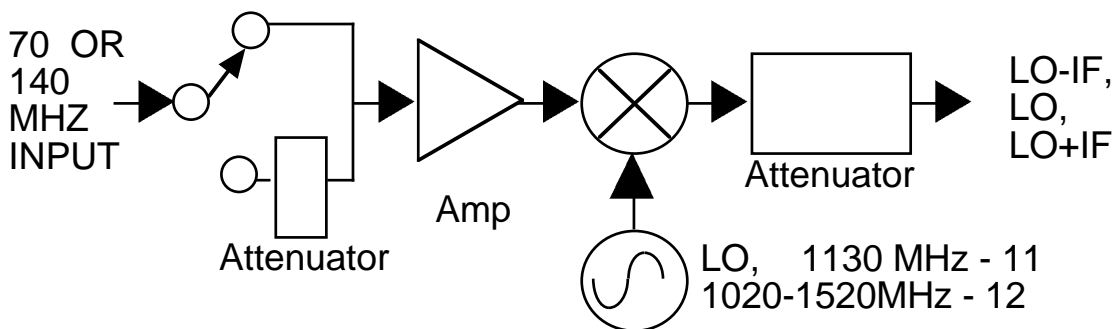

FIGURE 3.1 BLOCK DIAGRAM
3.1 Block Diagram Description - 2006-11, -12 (Figure 3.1) - The 70 or 140 MHz input goes to a capacitor and then to a switch which selects -5 or -25 dB gain. The signal then goes via an amplifier to a mixer which receives the LO generated by the VCO and provides the LO \pm IF and LO unfiltered output. This signal next goes to an attenuator and a 50 to 75 ohm output matching pad. Commands for the phase lock loop IC are provided serially from the microcontroller which determines the frequency of the LO. A 25 MHz crystal provides the reference frequency for the synthesizer IC.